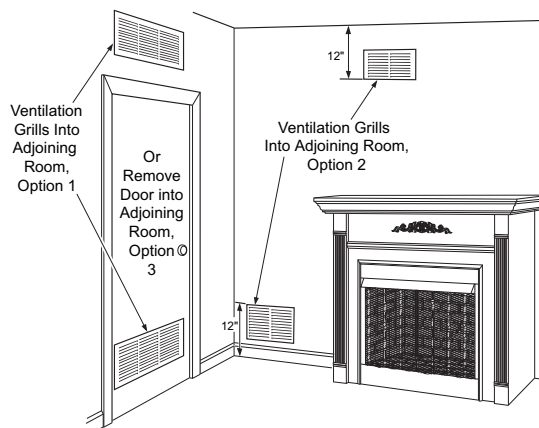

Figure 4 - Ventilation Air from Inside Building
This fresh air would come from an adjoining unconfined space. When ventilating to an adjoining unconfined space, you must provide two permanent openings: one within 12" of the ceiling and one within 12" of the floor on the wall connecting the two spaces (see options 1 and 2, **Figure 4**). You can also remove door into adjoining room (see option 3, **Figure 4**). Follow the *National Fuel Gas Code, ANSI Z223.1/NFPA 54, Air for Combustion and Ventilation* for required size of ventilation grills or ducts.
- where curtains, furniture, clothing, or other flammable objects are less than 36" from front or 42" from top of firebox; for side clearances see Figure 4, Page 11
Example: The face of a mantel, bookshelf, etc. is made of combustible material and protrudes 3-1/2" from the wall. This combustible material must be 4" from the side of the fireplace cabinet (see **Figure 4**).